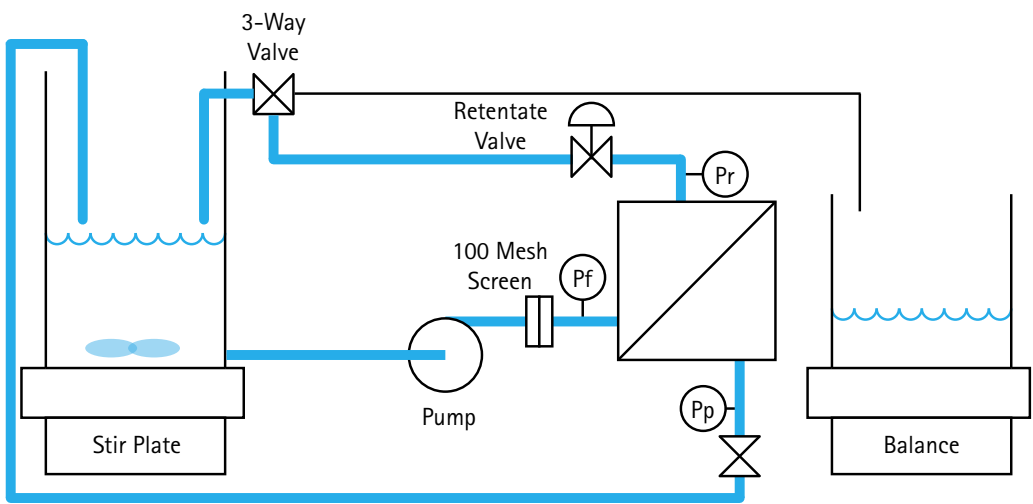

Figure 3.
- 2.8 Set the system flowpath to the total recycle mode (Figure 3). Fill the vessel with required volume of sanitization solution, see Table 1.
- 6.1 Set the system flowpath to the total recycle mode (Figure 3).